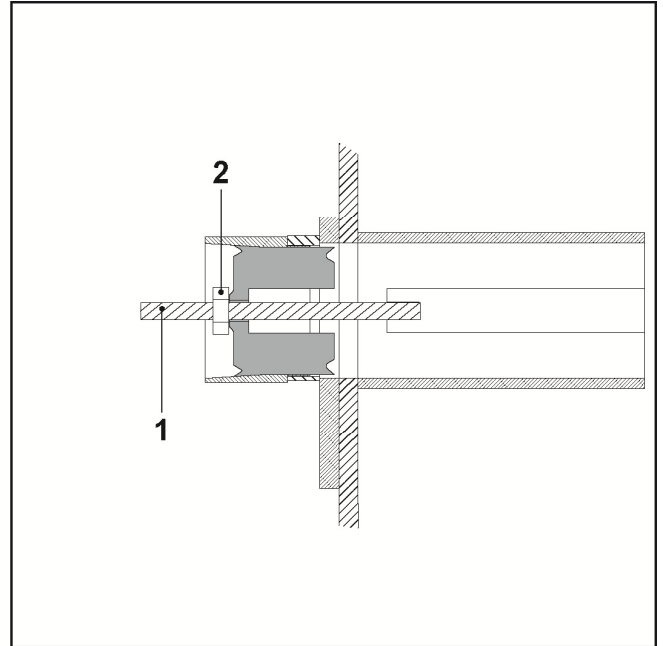

FIG.55
- Detach the piping between the clogging and the front delivery flange (FIG. 55-REF. 1).
- Push the piston completely into the guide ring, screw on the threaded rod M16 (FIG. 55-REF. 1) and the threaded nut (FIG. 55-REF. 2).